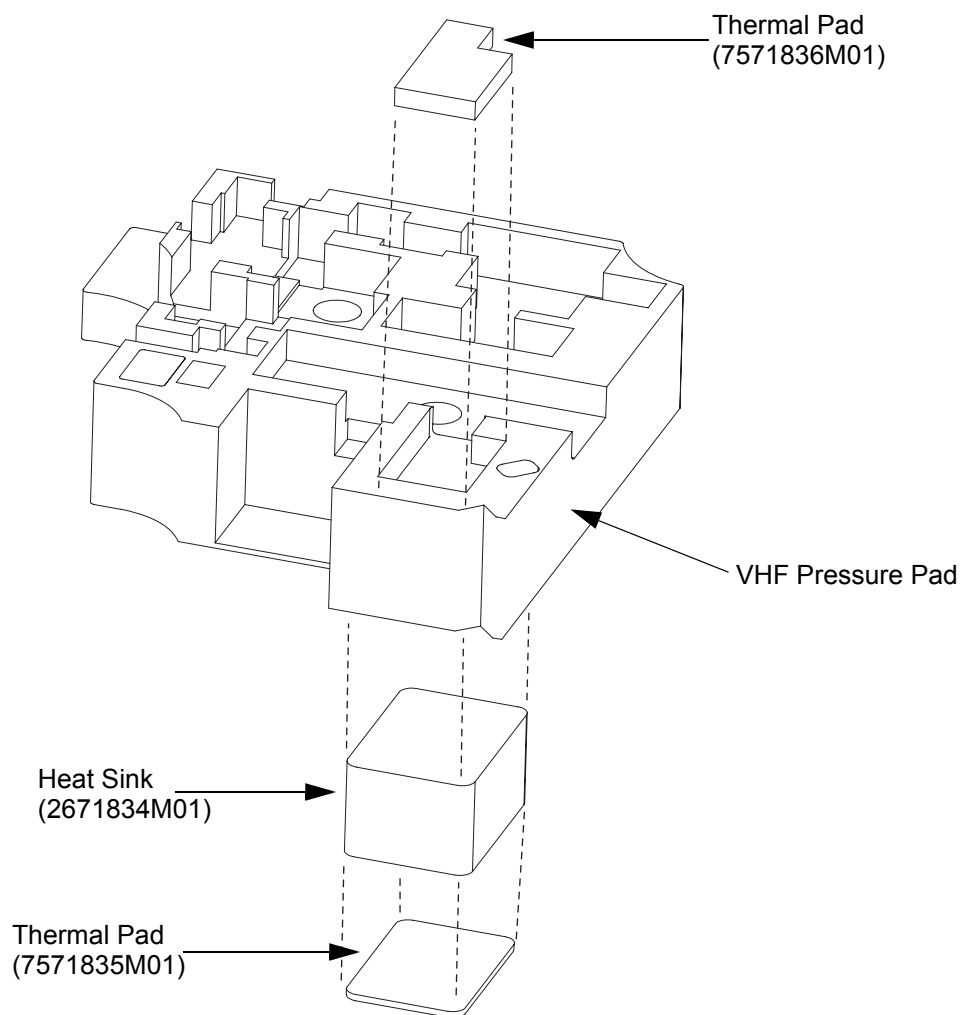
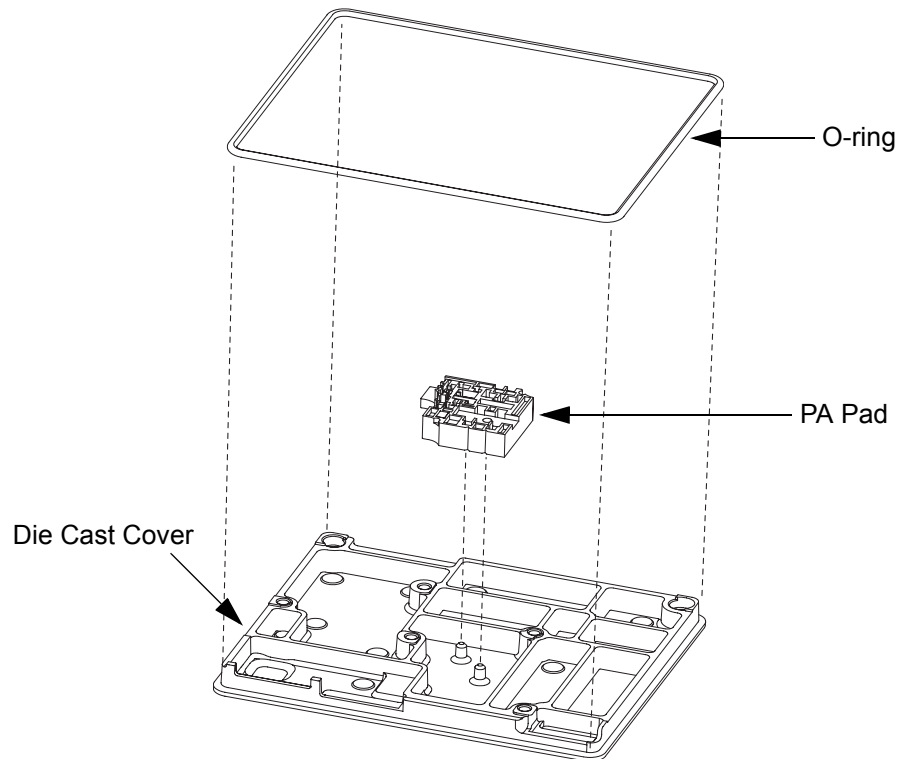
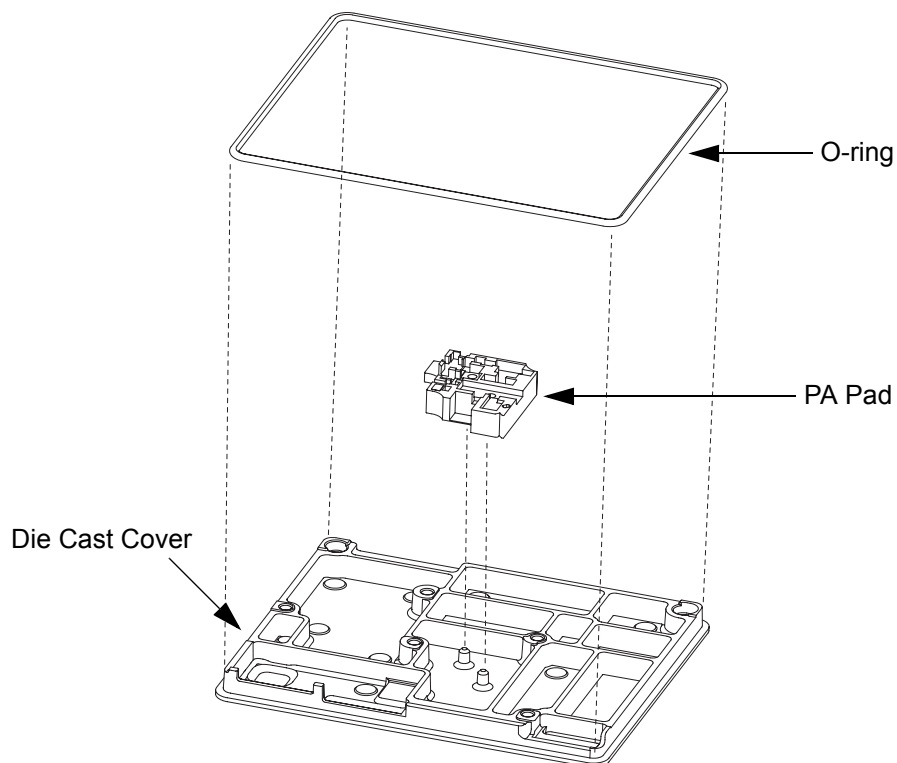

Figure 5-53 Assembling of VHF PA Heat Sink System
Figure 5-54 Assembling of PA Pad and O-ring (UHF models)
Figure 5-55 Assembling of PA Pad and O-ring (VHF models)
4. Place the PA pad on to the die cast cover by aligning the two holes in the PA pad with the alignment pins on the die cast cover. For UHF models, refer to Figure 5-54.
For VHF models only: PA heat sink block and thermal pads need to be placed on to the pressure pad before it gets assembled to the die cast cover. Refer to Figure 5-53 and Figure 5-55.
5. Fit the O-ring on to the die cast cover securely. Refer to either Figure 5-54 or Figure 5-55.